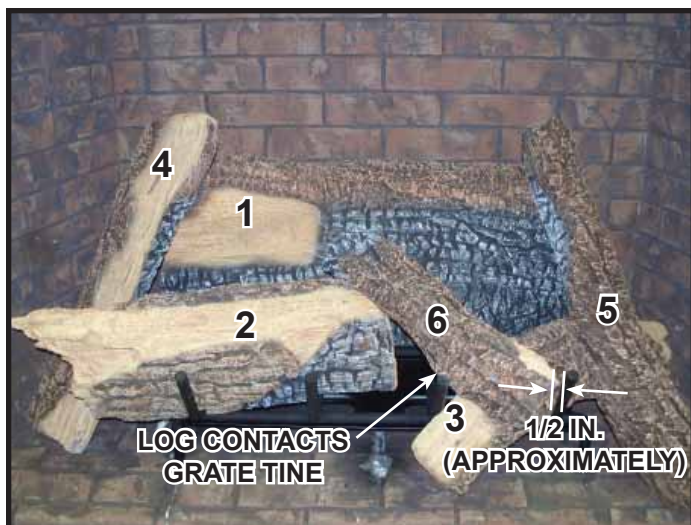

Figure 12. Log Set Installed
**Log #6 (2285-706):** Place Log #6 into appliance as shown in Figure 12. Bottom corner of Log #6 should be about 1/2 inch from right hand grate tine. Log will contact right center grate tine. The top of Log #6 should rest in the notch on Log #2.